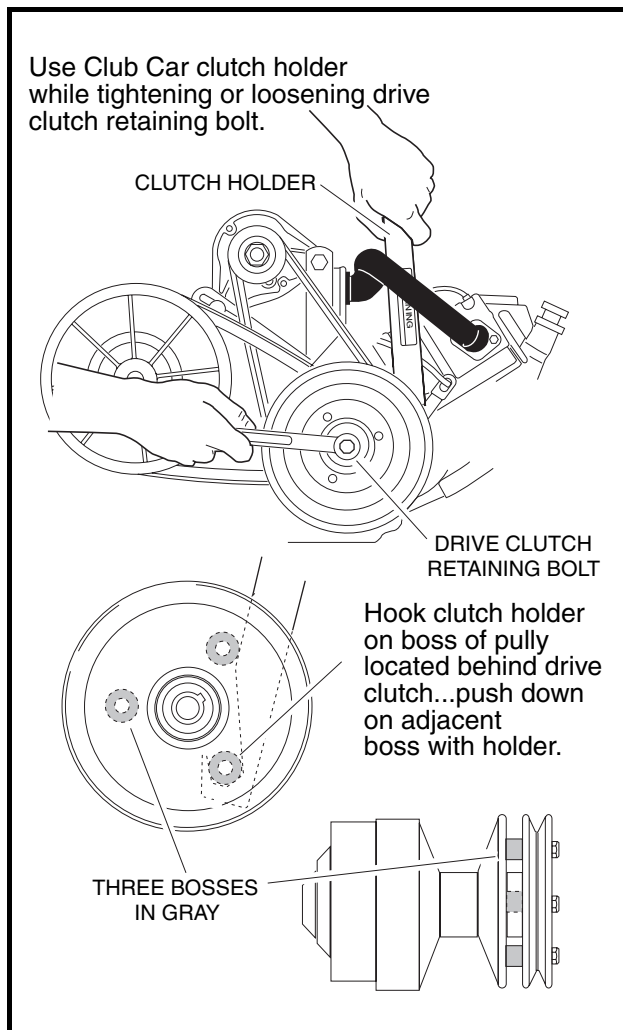

Figure 17-3 Loosen Retaining Bolt
6. Remove the drive clutch retaining bolt (17), lockwasher (20), and mounting washer (19) (**Figure 17-7, Page 17-8**). See also **Figure 17-3, Page 17-5**.